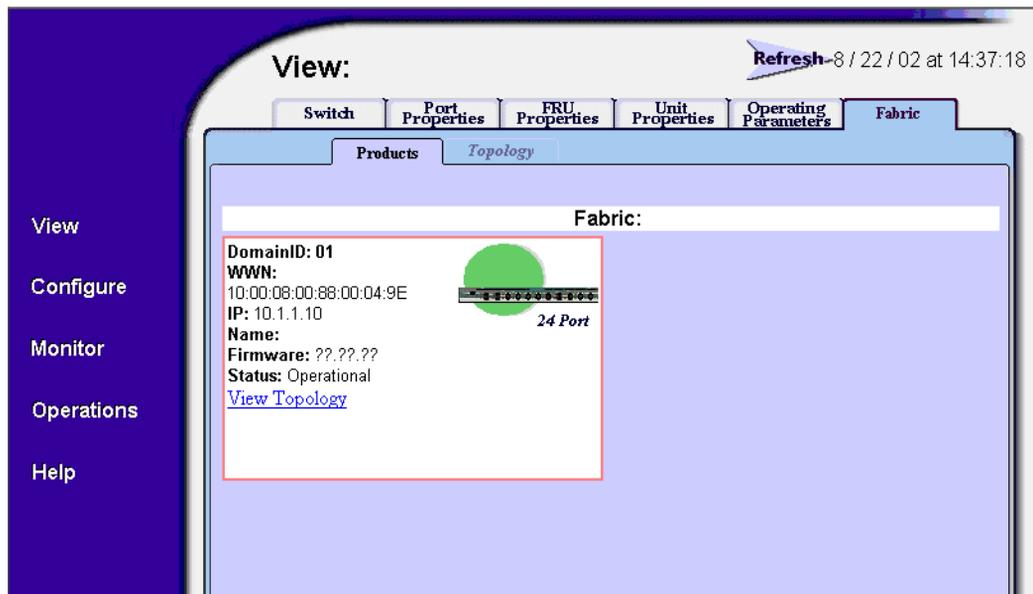

Figure 4–6: Fabric tab with Products tab view
2. Choose the **Fabric** tab and the **Products** tab. The **Products** tab view displays (Figure 4–6).